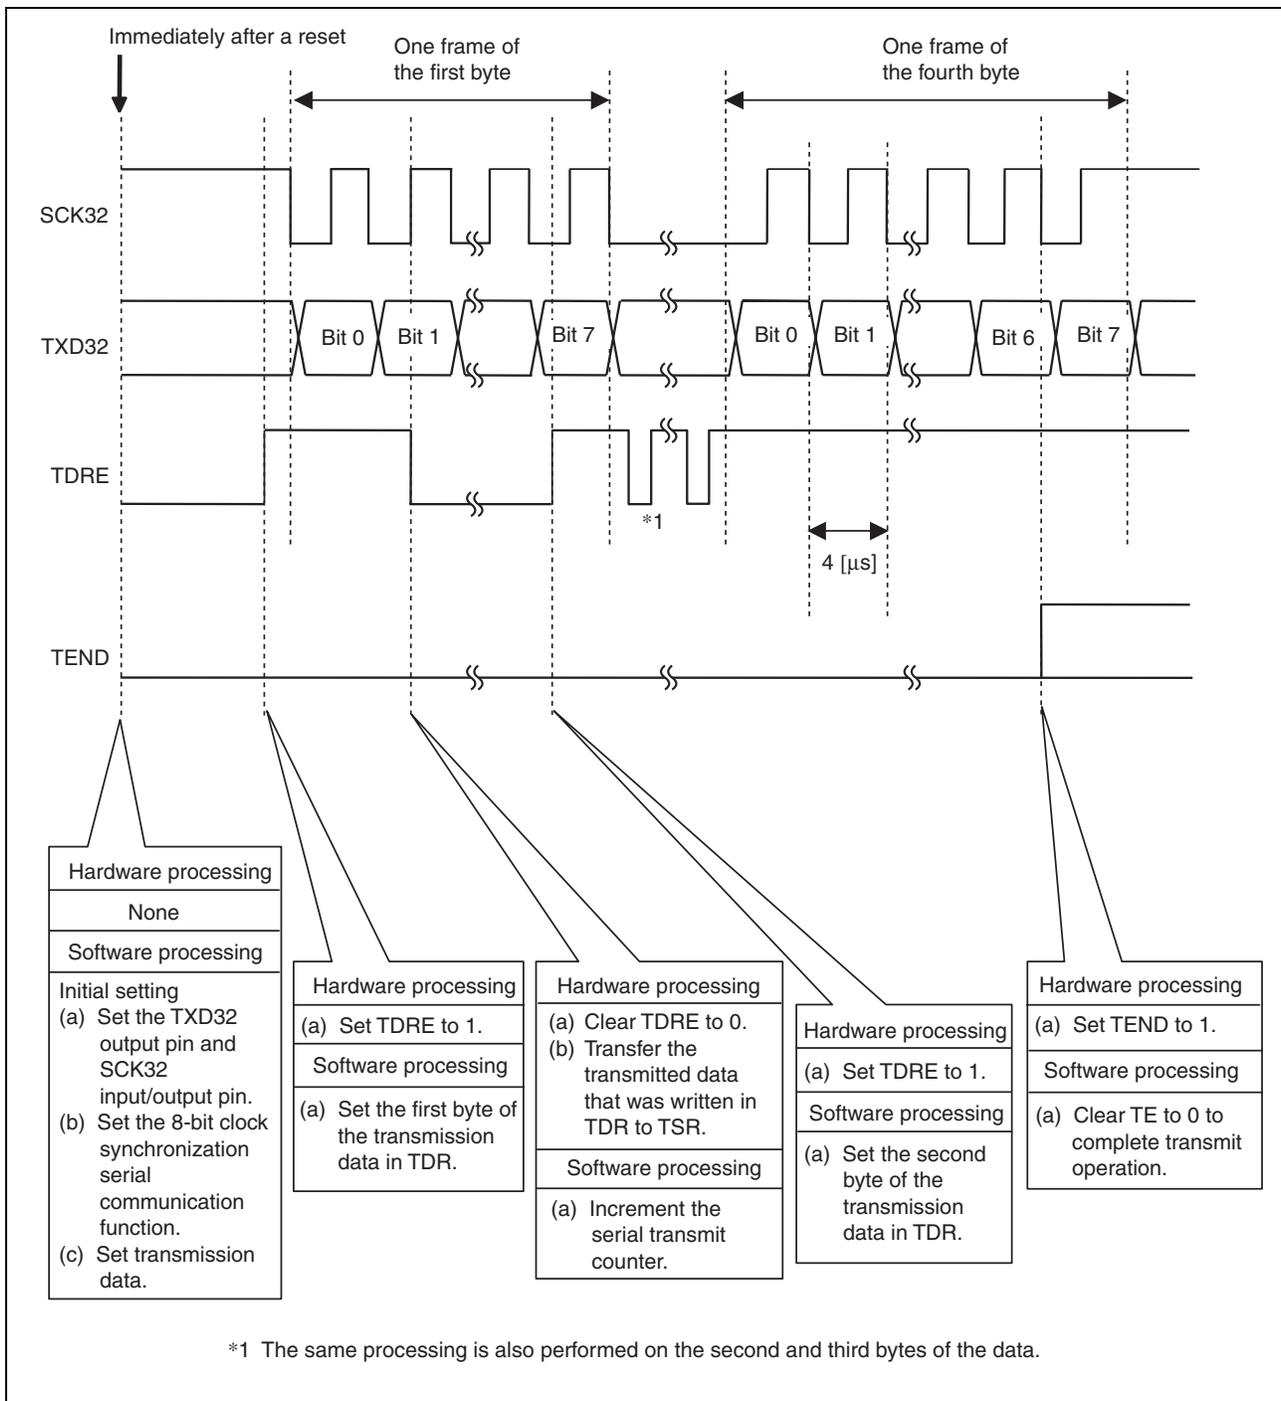

Figure 3 Operation during Transmission of Data
- Figure 3 illustrates operation during clock synchronization mode transmission in this sample task. It also describes software and hardware processings.